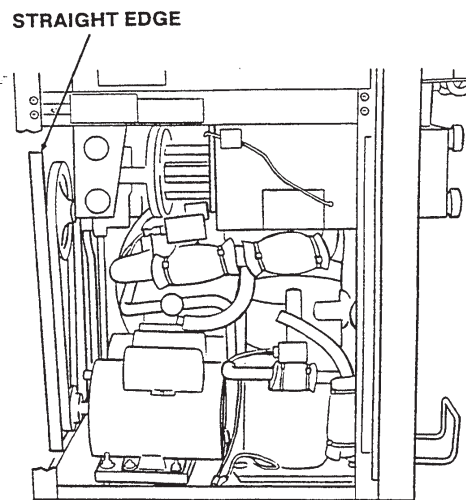

Figure 67. Motor Pulley Adjustment
4. Align the motor pulley to the top pulley and tighten the setscrew (Figure 67).